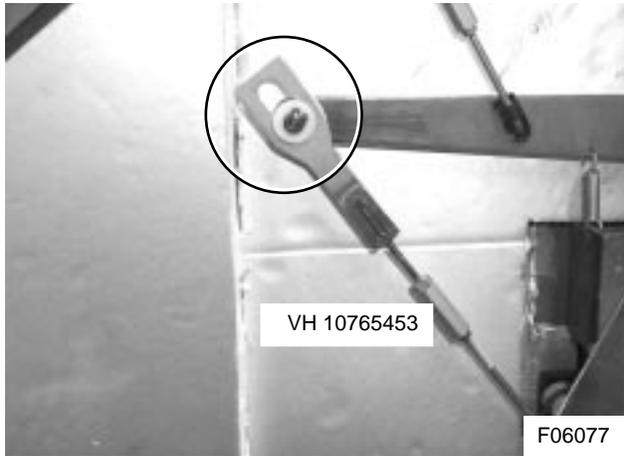

Figure 16: Lever to door lock cam linkage
- 5) Slip the slotted part of door lock cam to lever rod VH 10765453 over the pivot pin of the lever. Install fiber washer VH 10785180 in the slot. Secure with snap ring VH 660635508 (see Figure 16).